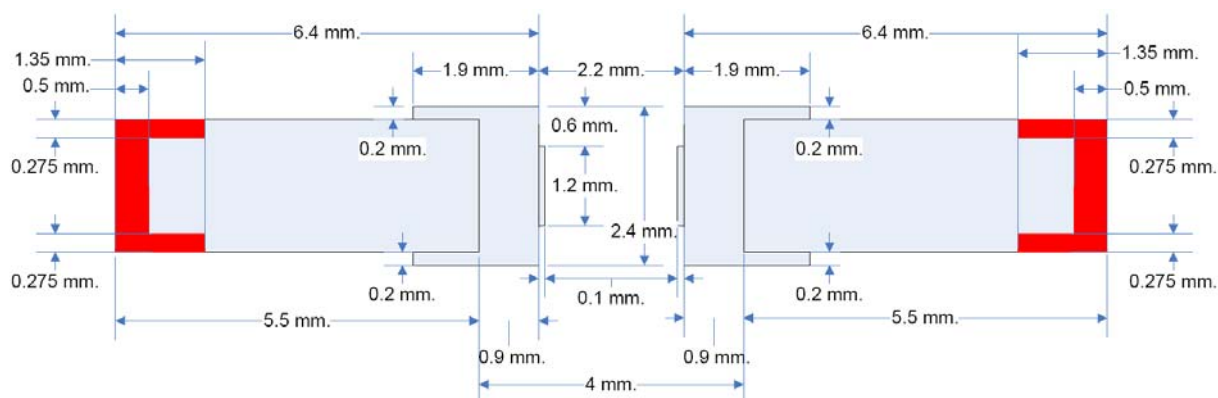

Figure 3 Triple 20 MHz crystal footprint with solder mask over pad
7. The recommended land pattern for the smaller footprint crystals, 3.2mm x 1.5mm, includes pads that are much wider than the crystal leads. Creating a dual footprint for both the large and smaller form factor 20 MHz crystals further enlarges the pad size. The large pad size can result in crystals drifting from their placement during the reflow process. Reducing the pad size reduces a design's robustness to vibration, which could be an important factor given the mass of either the larger 20 MHz crystals. With the purpose of reducing the drift of the crystal during the reflow process, it is recommended to include additional solder mask over the pad as show in red in Figure 3.